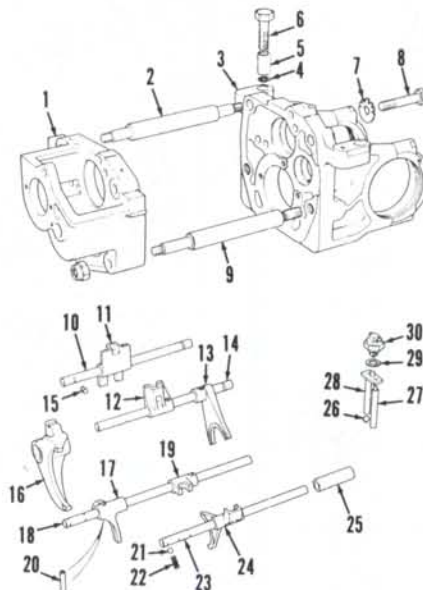
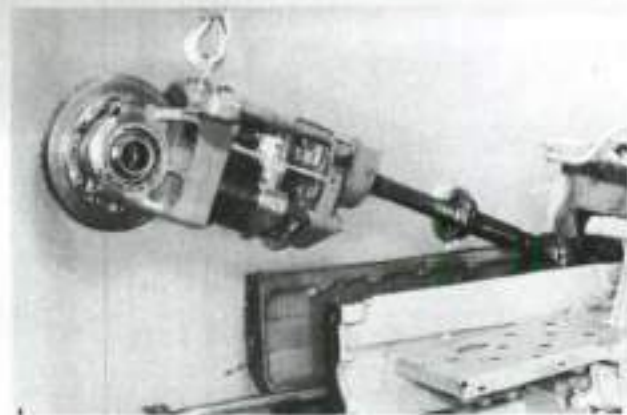
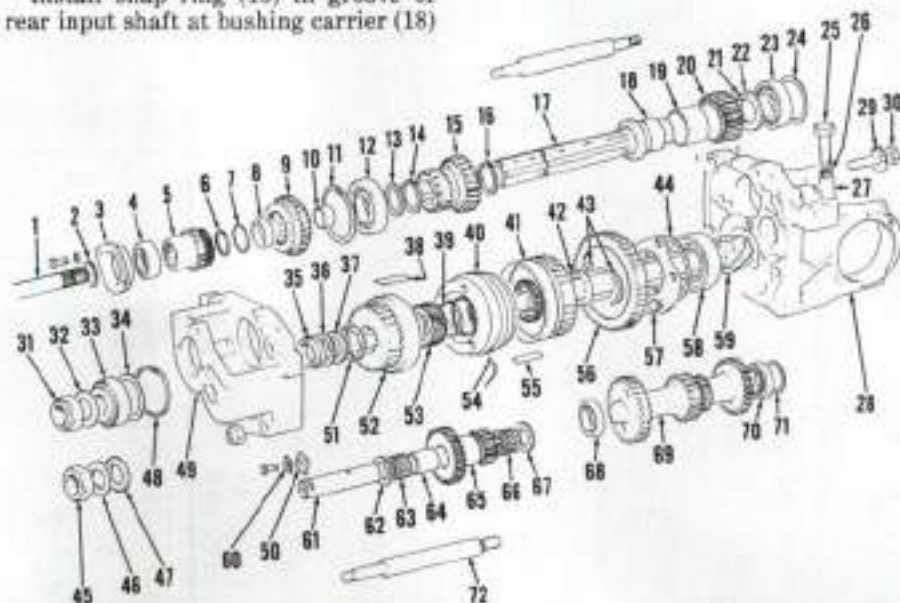

Fig. 174—Exploded view showing end plates, shift rods and shift forks used on 1190, 1194, 1290, 1294 and 1390 models.
Fig. 175—Attach a hoist to transmission as shown and remove unit rearward from main frame.
Fig. 179—Exploded view of 12-speed synchromesh transmission used on 1190, 1194, 1290, 1294 and 1390 models.
Remove lubrication line from transmission. Remove mounting bolts from clutch shaft bearing carrier. Remove transmission mounting bolts and bushings. Remove transmission rearward from main frame (Fig. 175).
Fig. 174A—Exploded view of end plates, shift rods and shift forks used on 1394, 1490, 1494, 1594 and 1690 models. Refer to Fig. 174 for legend except for the following:
224. REINSTALL. Using a hoist, install transmission assembly in main frame (Fig. 175). Install mounting bolts and bushings. Tighten bolts to 163 N·m (120 ft.-lbs.) torque, then measure clearance between bolt heads and end plate using a feeler gage as shown in Fig. 176. Clearance should be 0.08-0.30 mm (0.003-0.020 inch). If clearance is not within this range, add or remove shims (4—Fig. 174) below bushing (5). Tighten clutch shaft bearing retainer mounting bolts to 23-27 N·m (17-20 ft.-lbs.).
Remove mounting bolts from input shaft rear bearing carrier (3—Fig. 179) and remove input shaft (1) assembly. Remove snap ring securing input shaft front bearing carrier, then slide carrier from shaft. Remove "O" ring and oil seal from front bearing carrier. Remove seal (8) and "O" ring (7) from input gear (5). Remove snap rings (2 and 6) and remove input gear and rear bearing carrier with bearing from input shaft.
Remove neutral start plungers (27 and 28—Fig. 174) and detent balls (26) from rear housing. Remove first and reverse shift rod assembly and second and third shift rod assembly. Remove countershaft assembly (69—Fig. 179) and rear input shaft (17) assembly.
If shifting into second or third has been difficult, examine synchronizer friction surfaces and the synchronizer pads (38 and 55—Fig. 179). Slight radial clearance (looseness) in synchronizer is normal and the pads should slide easily into their grooves without binding. No attempt should be made to disassemble synchronizer assembly as individual service parts are not available.
230. PINION SHAFT ASSEMBLY. With pinion shaft (59—Fig. 179), bearing (58) and correct thickness of shims (44) in position, install retainer plate (57) and tighten retaining bolts to 40 N·m (30 ft.-lbs.) torque. Install first/reverse gear (56) with shift fork groove toward retainer plate (57). Install split rings (43) and spacer (42). Apply grease to the six bearing pads (55) and install pads in splines of pinion shaft (59).
231. REAR INPUT SHAFT ASSEMBLY. Press bushing (10—Fig. 179) into rear input shaft (17). Press bushing (19) into reverse idler gear (20).
Heat bearings (68 and 70—Fig. 179) to 120°C (250°F) maximum before installing on countershaft (69). Install bearing cup in rear housing without shims (71). Position countershaft in rear end housing, install front housing and tighten spacer bar nuts to 95 N·m (70 ft.-lbs.) torque.
Install bearings (63 and 66—Fig. 179) and spacer (64) into range idler gear (65). Bearing cages should be slightly
Install original shim pack (36—Fig. 179) removed during disassembly plus an additional 0.25 mm (0.010 inch) thick shim. Install shoulder washer (35) with flat side against shims. Install bearing cone, washer and nut on pinion shaft and tighten nut to 270 N·m (200 ft.-lbs.) torque. Position a dial indicator on front housing so probe contacts end of pinion shaft. Move pinion shaft up and down and measure end play. Remove nut and bearing, then reduce shim thickness as necessary to provide zero end play to 0.05 mm (0.002 inch) preload. Reassemble using a new nut and tighten nut to 270 N·m (200 ft.-lbs.) torque.